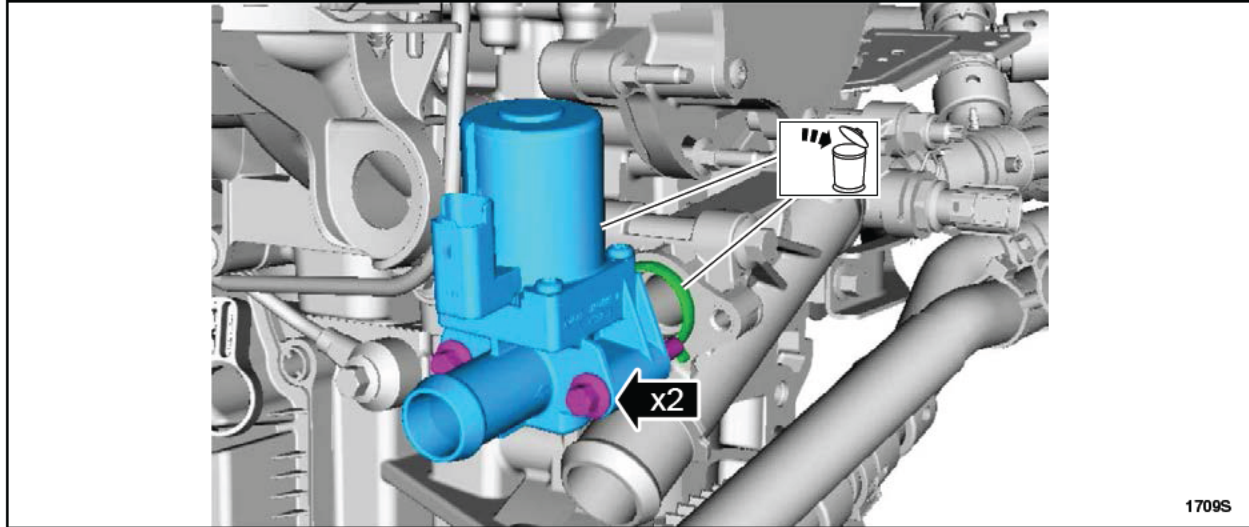

FIGURE H3
3. Remove the bolts from the engine coolant bypass valve. Remove and discard the valve and O-ring seal. See Figure H3.